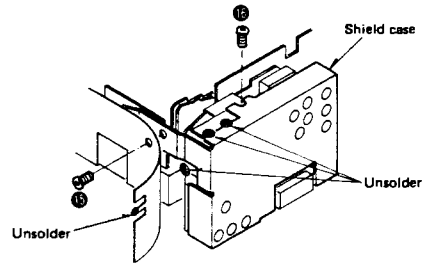

Fig. 19
12. Remove the solder and the 2 screws (⑮ , ⑯) from the RF P.C.B. shield case (Figs 19 ~ 21).